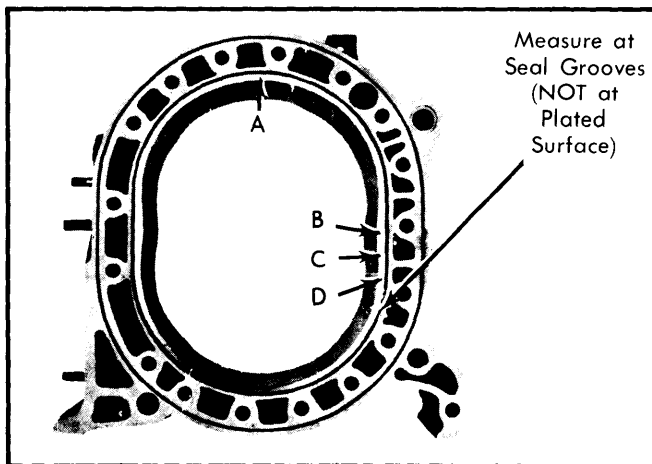

Fig. 10 Rotor Housing Thickness Check Points
4) Check rotor housing thickness at points A, B, C, and D in Fig. 10. If micrometer readings vary between point A and minimum value for B, C, and D by more than .0024" (.06 mm), replace rotor housing.
3) When installing new apex seal, check gap between seal and side housing. Measure length of seal with micrometer and subtract length from rotor housing width at point A, (Fig. 10). Clearance should be .0051-.0067" (.13-.17 mm). If seal length is excessive, correct with emery paper. Check seal spring height at least .22" (5.5 mm).